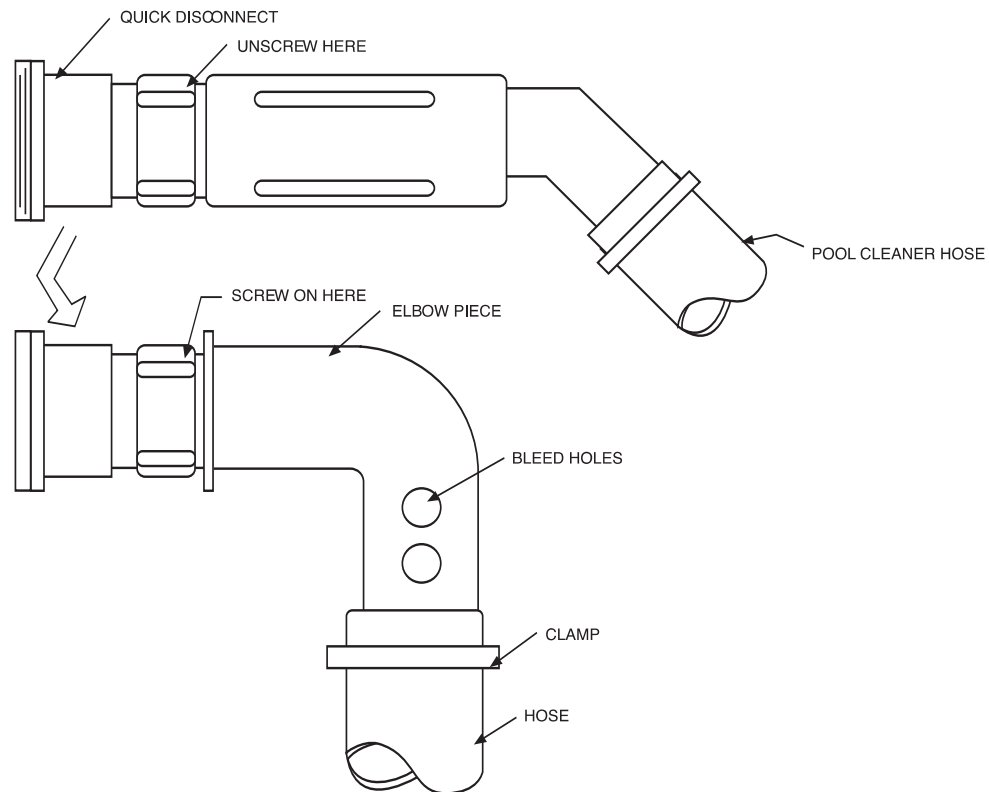

FIGURE 7
Pool cleaner quick disconnect fittings. Refer to Figure 7. Use installation **instruction 4, page 6** for this type inlet.
2. Unscrew the end of your pool cleaner hose fitting as Indicated in Figure 7. Screw the quick disconnect fitting on to the threaded end of the Elbow Piece (8). This is your inlet adapter.
3. Refer to Figure 1. Uncoil the hose (5) and remove all twist. Using clamps (17), clamp one end of the hose to the back side of the fountainhead (1) and the other end to the inlet adapter from step 2. Cover one set of bleed holes with the hose (Fig. 7). To tighten clamp, grasp "tabs" between thumb and forefinger and squeeze. Tighten securely with a pair of pliers. To open the clamp, grip one "tab" of the clamp with pliers and twist loose.
4. Using the tie wrap (16), LOOSELY attach the anchor (6) to the hose (5). The anchor (6) should be attached to the hose (5) at a point as deep as the water plus approximately two feet. You will have to estimate what the water depth is where you want the fountain and add two feet. CAUTION: DO NOT CONSTRICT THE HOSE BY TIGHTENING THE TIE WRAP (16) TOO TIGHT.
6. Place the fountain assembly into the pool. Position the fountain in the desired location being careful not to crimp the hose (5).
Height adjustment is achieved by covering more or less of the bleed holes (Fig. 7) on your elbow piece (8) with the hose (5). The more holes covered, the higher the fountain and vice versa.